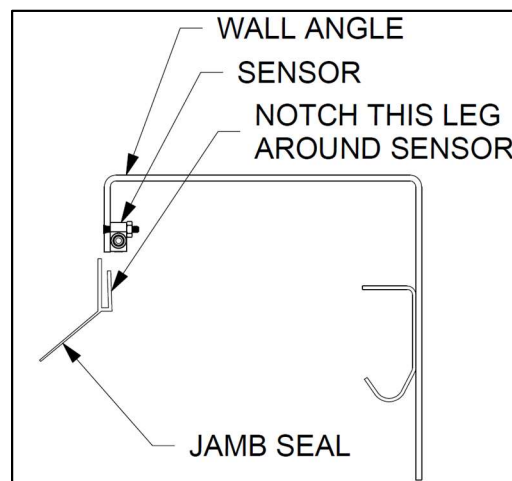

Figure 34– JAMB SEAL
96. Push the jamb seals onto each wall angle flange until fully seated as shown in **Figure 34**.